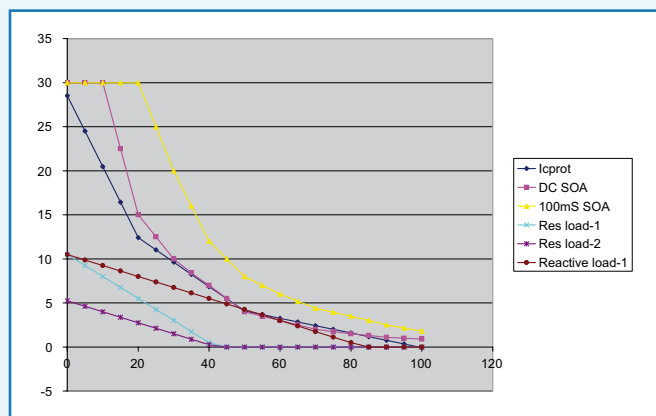

Figure 1. SOA, load lines and protection locus. See text for explanations.
The second main part of the protection system is to guard the output devices against excessive low impedance loads and short-circuits. Michael Kiwanuka has written a very informative article on Safe Operation Protection in audio power amplifiers [1]. My own protection circuit is different, but was inspired by Mike's design and has many things in common with it. **Figure 2** shows the circuit. The circuit receives two types of information from the power amp: the  $I_c$  in the output devices through  $V_{protP}$  and  $V_{protN}$  (via connector J7 in **Figure 1**): this actually is the voltage across the emitter resistors. Secondly, through the components connected to the supply and  $V_{out}$  a voltage is developed that represents  $V_{ce}$  of the output devices. (There is a separate part to this article that explains the circuit in detail and how
Figure 1 shows the various curves that we need to develop the SOA protection for two pairs of output devices.  $I_c$  (A) is on the vertical scale,  $V_{ce}$  (V) is on the horizontal scale. When  $V_{ce}$  is zero, it means that  $V_{out}$  is equal to  $V_{supply}$ . In practice, there will always be a few volts  $V_{ce}$  remaining at maximum output, but we will disregard that for the moment. The cyan curve shows the safe combinations of DC  $I_c$  and  $V_{ce}$  for two parallel STD03 Sanken Darlington devices used in this amplifier. The yellow curve shows this for loads lasting no longer than 100 ms. That means that combinations of  $I_c$  and  $V_{ce}$  that fall below and to the left of the curve, are safe, but as soon as the curve is crossed, the protection system should activate. Since music is impulsive and not DC, one could argue that protection for the yellow curve would be sufficient, but if we use the cyan curve we have an additional safety factor and we also are protected against DC shorts.
Figure 1 also shows some load lines, which are combinations of  $I_c$  and  $V_{ce}$  required to drive a (resistive) load, assuming  $\pm 40$  V supplies. The lower one, in pink, is an 8  $\Omega$  load, the light blue one is 4  $\Omega$ . For example, in the 4  $\Omega$  case, we see that when  $V_{ce} = 0$ , the output voltage is the supply voltage (40 V in this case) and thus  $I_{out}$  in 4  $\Omega$  is 10 A. The brown curve is also for 4  $\Omega$  load, but now with a maximum reactive component of 90° phase shift. This is a particularly mean load. At  $V_{ce} = 40$  V we are exactly between the supplies (assuming a  $\pm 40$  V supply) with  $V_{out} = 0$ . With  $V_{ce} = 60$  V,  $V_{out}$  is actually -20 V negative but  $I_c$  is still positive (about 3 A). That means that the upper
So, we can put in a simple current limiter that follows, say, the 4  $\Omega$  complex load line. But then we cannot use the large safe area, especially at low  $V_{ce}$  and  $I_c$  between 10 A and 30 A, which may come handy with speaker loads that have low impedance dips. It is clear from Figure 1 that a simple current limiter is not enough. What we want is to 'model' the cyan DC curve in our circuit. This can be done with some non-linear circuit elements, and my target SOA protection curve is shown in dark blue. It has three inflexion points at  $V_{ce} = 20$  V and  $V_{ce} = 50$  V.